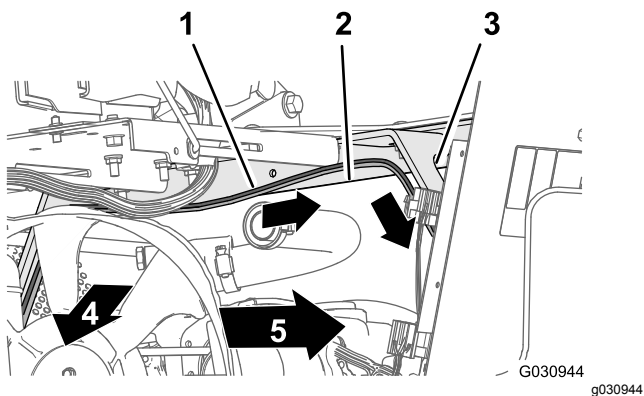

Figure 110
2. Route the 165 cm (65 inch) branch of the wire harness across the seat-box angle and down along the left support for the engine shroud (Figure 110).